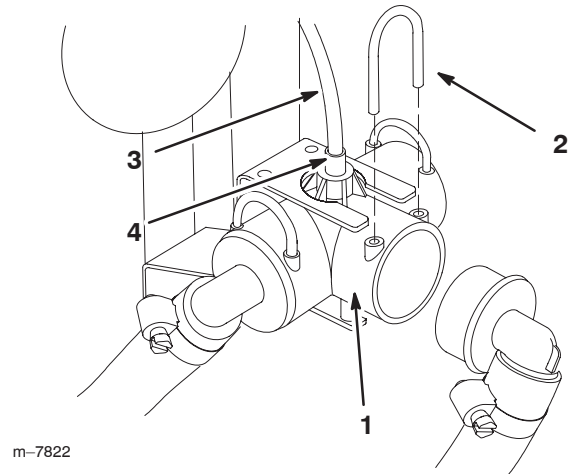

Figure 8
1. Remove hose retainer to disconnect the boom hose from the supply tee (Fig. 8).
2. On a Multi-Pro 1200 Sprayer, disconnect the small red pressure gauge tube from the green tube fitting on top of the supply tee (Fig. 8). To disconnect, press down on the tube fitting while pulling up on the tube.